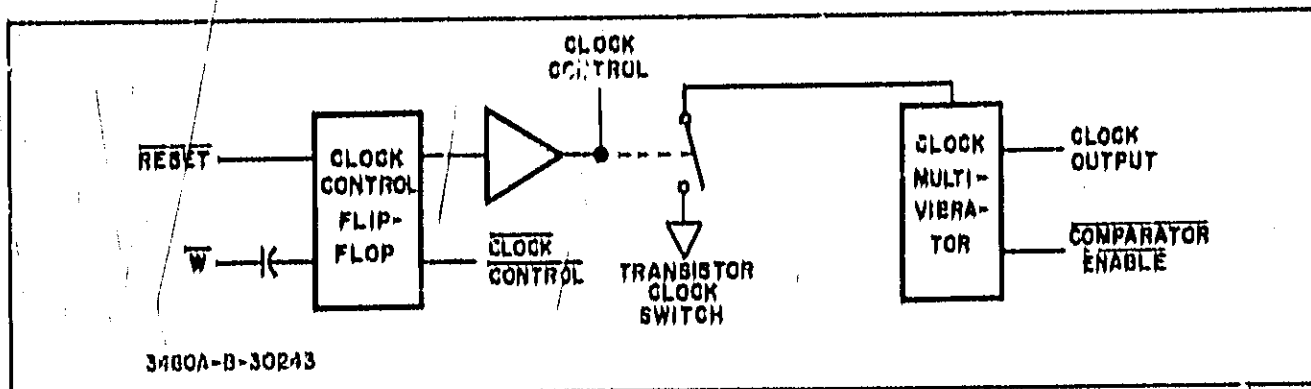

Figure 4-7. Clock Circuits.
4-28. The Clock Control Flip-Flop (Figure 4-7) is a bistable multivibrator. The Reset pulse changes the state of the flip-flop so that the Clock Control output is LOW. This signal turns off the transistor Clock Switch, allowing the Clock Multivibrator to free-run. The Clock Multivibrator output feeds the 18-Pulse Counter. At the trailing edge of the 18th pulse, an output (W) from the counter sets the Clock Control output to HIGH, saturating the Clock Switch and stopping the Multivibrator.